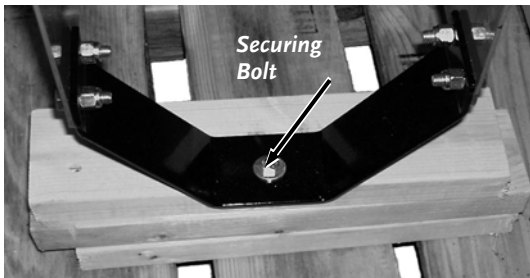

Figure 4
5. Using a 1/2" Wrench, remove the Lag Bolt and Washer securing the front of the Chipper/Shredder frame to Shipping Pallet (**Figure 4**). This Bolt and Washer may be discarded.